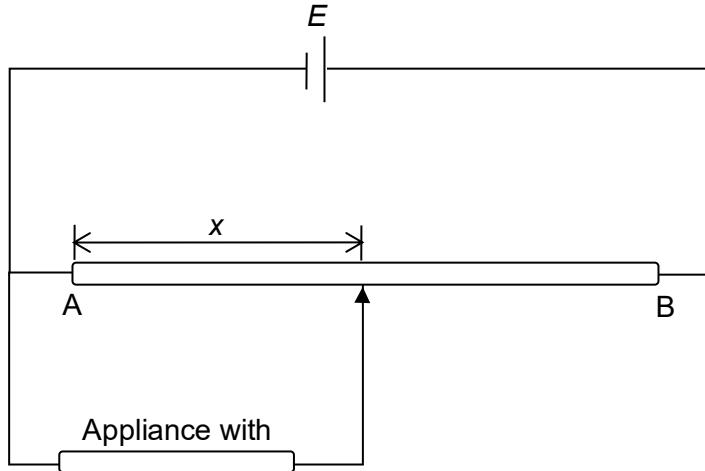

Fig. 5.3
- (b) Fig. 5.3 shows a potentiometer, made from uniform resistance wire AB of length L and resistance R , connected in series with an e.m.f. source E of negligible internal resistance.